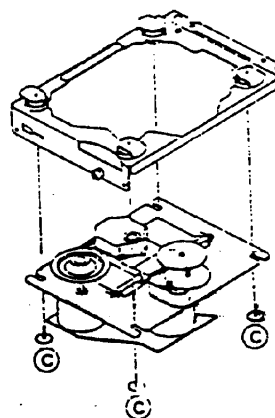

Figure 6
4. Remove three screws **C**. (See Figure 6.)